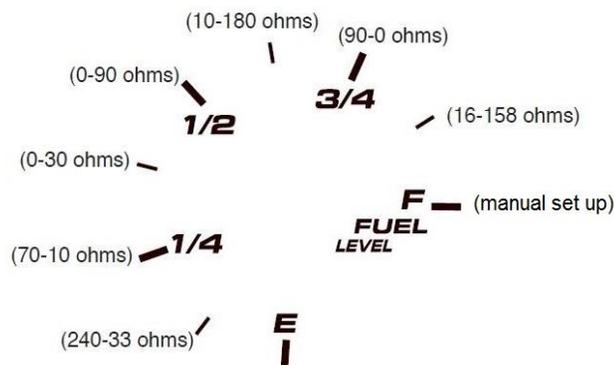

Figure 2
The fuel level gauge can be manually programmed to any existing fuel tank sender or you can select one of the programmed presets (**Figure 2**) – Factory default setting is 240 Ohms Empty and 33 Ohms Full.
2. Press and release button to toggle between available preset resistive ohm range options (**Figure 2**). The pointer will stop to each available setting with quick button presses. At the desired ohm range, press and hold the button down for 2 seconds to save the ohm range preset. The LED will blink 2 times to indicate the preset range is saved and will begin displaying the current fuel level.